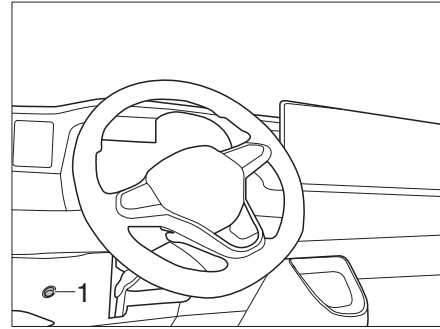

Fig. 321 On/off switch LED Lightbar
- ▶ Regularly check the function of the lightbar and the on/off button (Fig. 321,1).
- Press the on/off button (Fig. 321,1) on the left below the steering wheel.